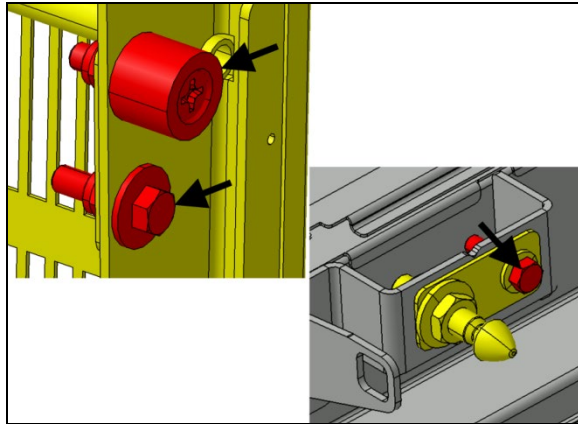

FIGURE 65
- Open the door and perform a final tightening to the items indicated with arrows (FIGURE 65).